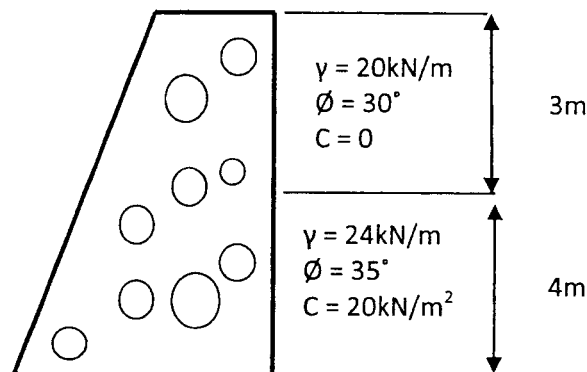

Figure 2(b) / Rajah 2(b)
- (b) A retaining wall was built during the excavation as shown in **Figure 2(b)**.